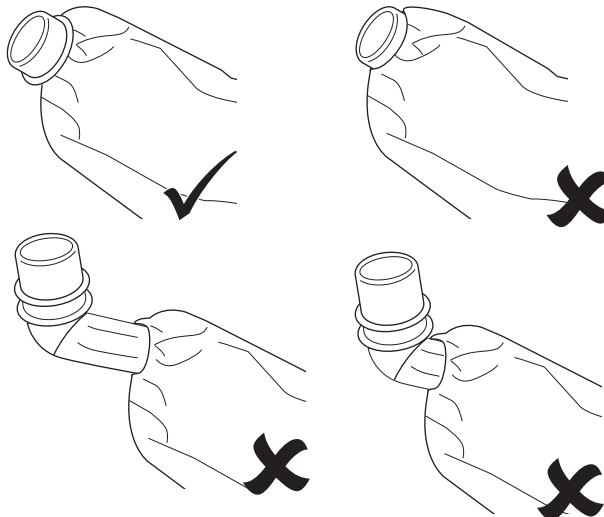

Fig. 8
- > Make sure the dust bag (17a) is properly assembled onto the connector (17b)/frame (17c) (Fig. 8).